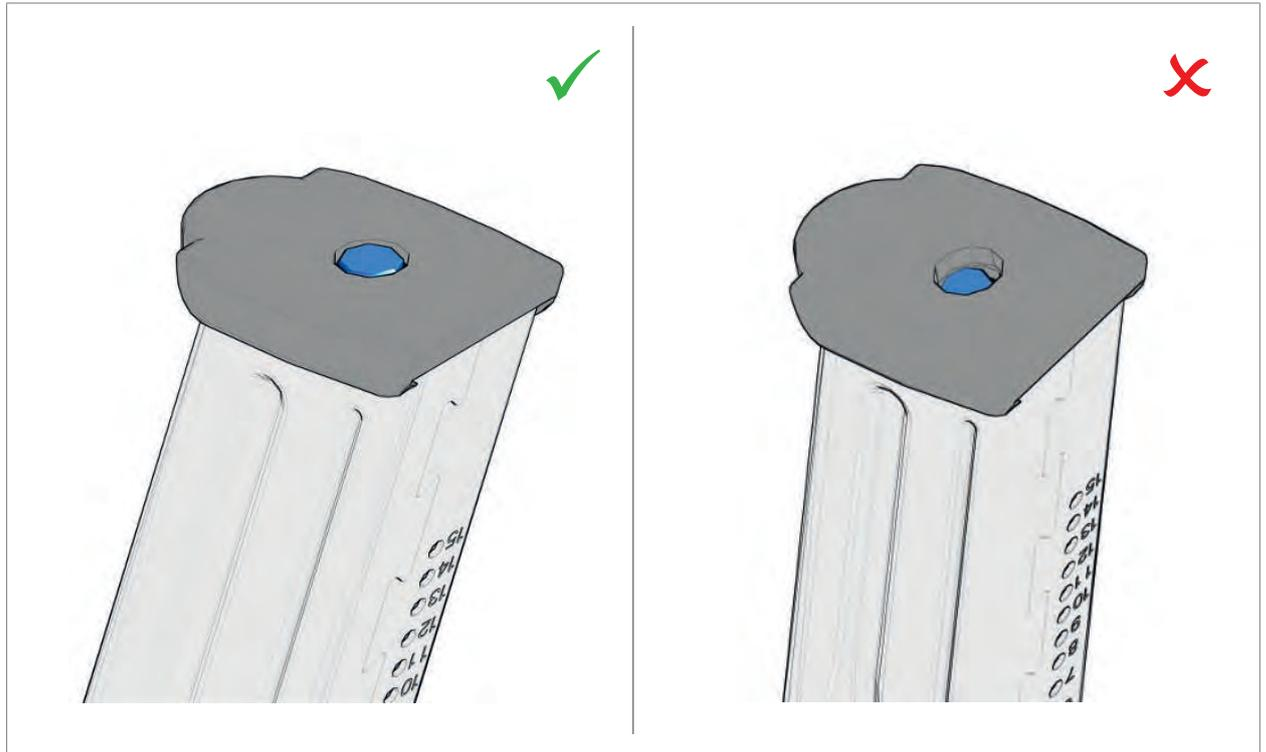

Fig. 71: Magazine floor plate assembly position/insertion
- Slide magazine floor plate onto magazine housing from the front until the magazine locking plate engages in the magazine floor plate (*Fig. 71*).